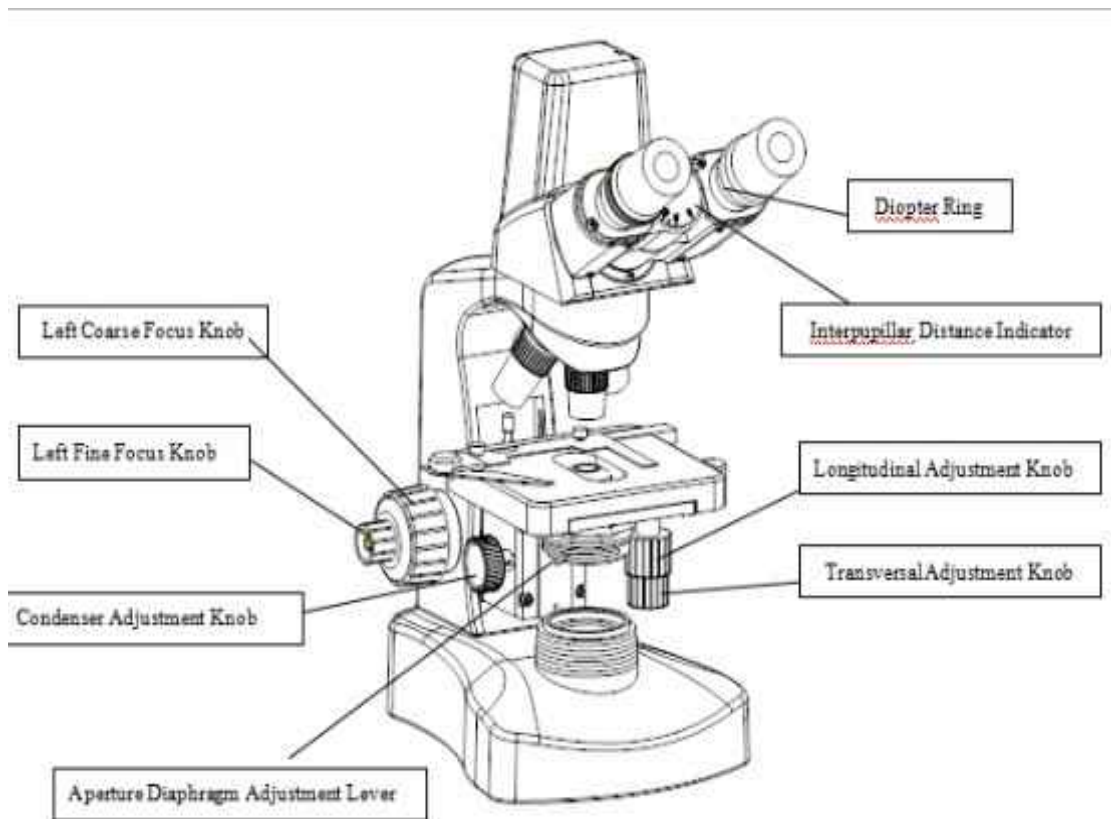
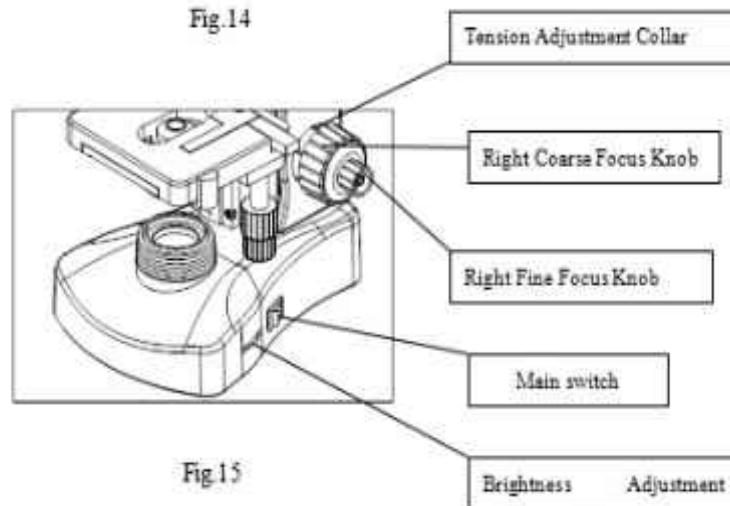

Fig.14
Fig.15
3.1 Adjustment Sets (Fig.14, Fig.15)